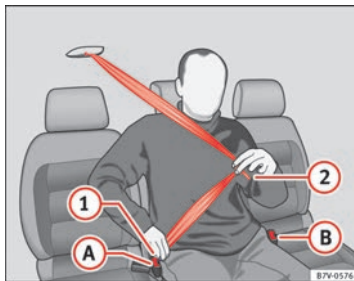

Fig. 12 Fasten the seat belt on the centre seat in the second row of seats
- Use latch plate of the belt ⇒ Fig. 12 ① to pull the seat belt down. Do **not** twist the seat belt when doing so ⇒ ⚠.
- Engage the latch plate ① in the buckle of the corresponding seat Ⓐ.
- Use the latch plate ⇒ Fig. 12 ② to pull the seat belt across your lap.
- Engage the latch plate ② in the buckle of the corresponding seat Ⓑ.
- Press the red button on the buckle ⇒ Fig. 12 . The latch plate is released from the buckle.